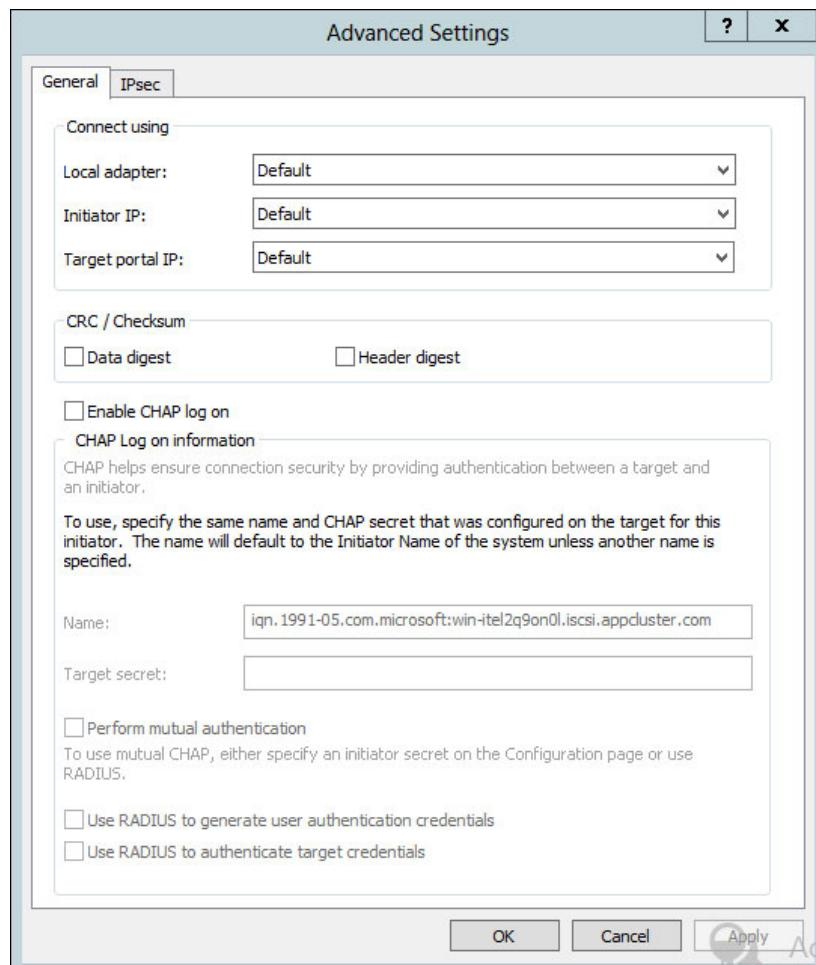

Figure 7-26 Advanced connection settings
- A new window opens, as shown in Figure 7-26. You can select the appropriate check boxes to configure digests and CHAP authentication.